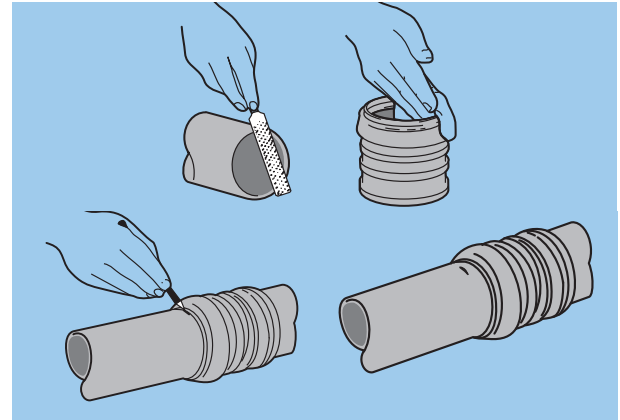

Fig.25
- Push pipe fully into socket. Mark pipe as shown (*Fig.25*)